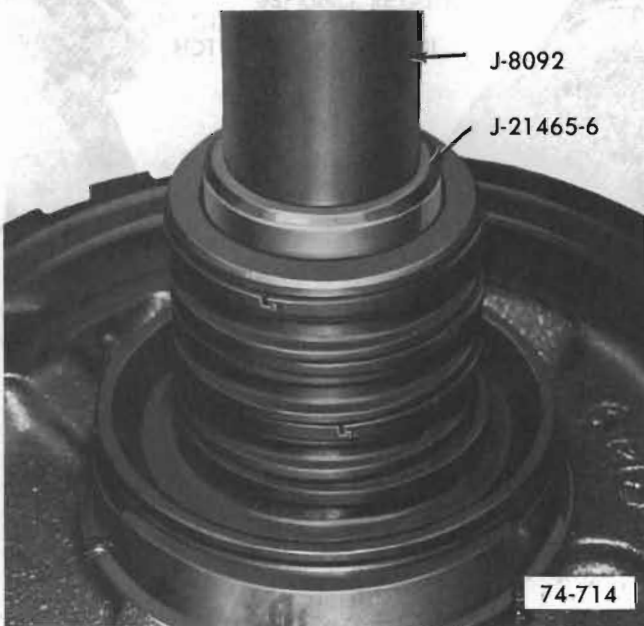

Figure 76-225
a. Using Tool J-21465-6, remove bushing. See Figure 76-225.